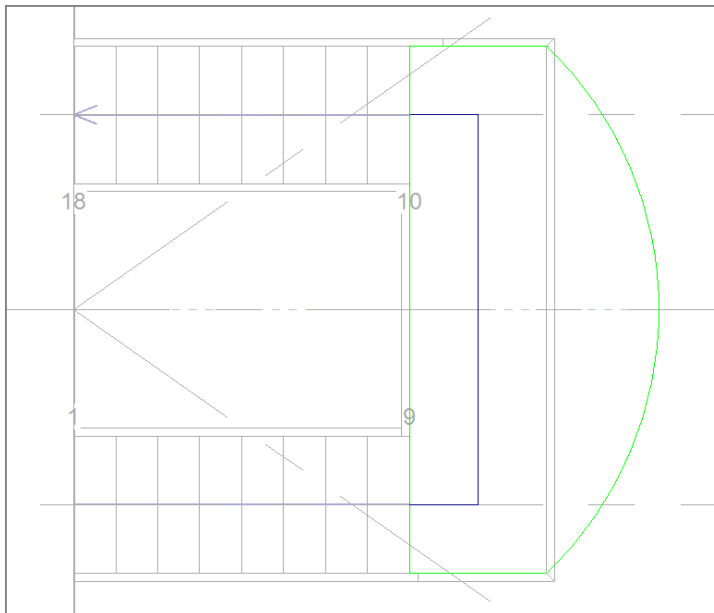

FIGURE 10.8: The completed boundary
2. Press the Delete key on your keyboard. The line is removed. Your stairs should look exactly like Figure 10.8.